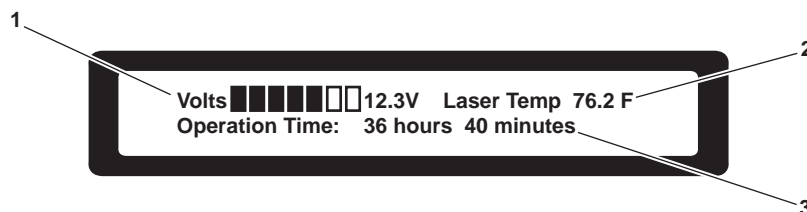

Figure 32. Voltmeter, Laser Temperature, and Operation Time Screen
2. Check the voltmeter, laser temperature, and operation time (figure 32) by pressing the up arrow button (figure 17, item 5) on the LMI receiver panel (figure 17, item 2) twice while in the primary operating display screen (figure 25).
3. The voltmeter, laser temperature, and operation time display (figure 32) will indicate operating voltage (figure 32, item 1) numerically and by bar graph. The display will also give numeric readout of laser operating temperature (figure 32, item 2) and operation time (figure 32, item 3).